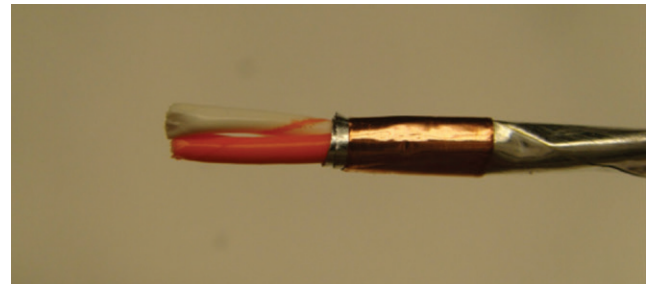

Figure 52: Removing polyimide tape and foil
12. Using cutters, remove the polyimide tape and the foil until you reach the copper tape placed in step 11 (Figure 52).